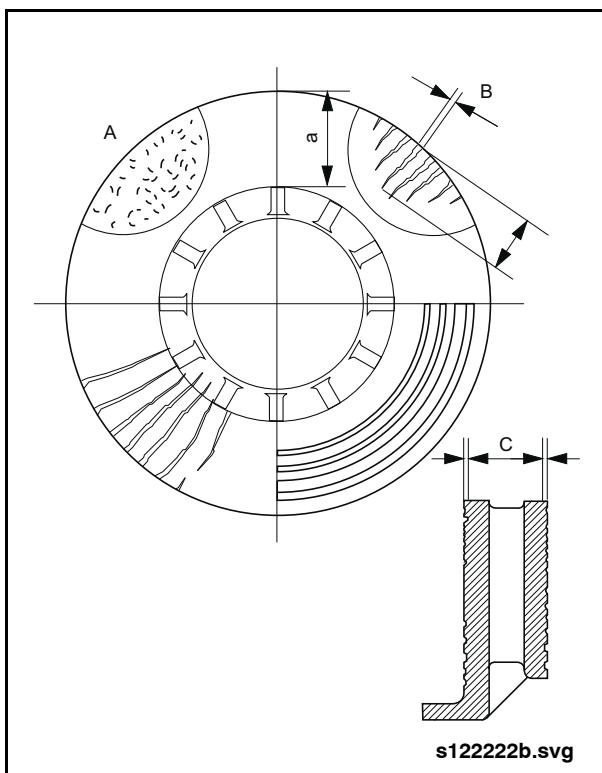

Fig. 1-46: Brake Disc Condition
3. Inspect the brake disc for cracks and scoring. See "Fig. 1-46: Brake Disc Condition" on page 56.